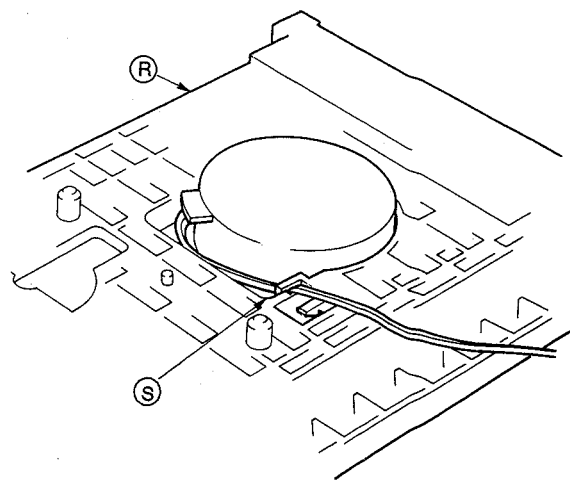

Fig. 1-7
5. Remove the lead wire from the lead wire hook ⑰ (Fig. 1-7) for the spindle motor at the rear of the mechanism base ⑱.
4. While the servo-mechanism unit is raised, hook the lead wire from the spindle motor to hook ⑤ (Fig. 1-7) on the rear of the mechanism base ④.